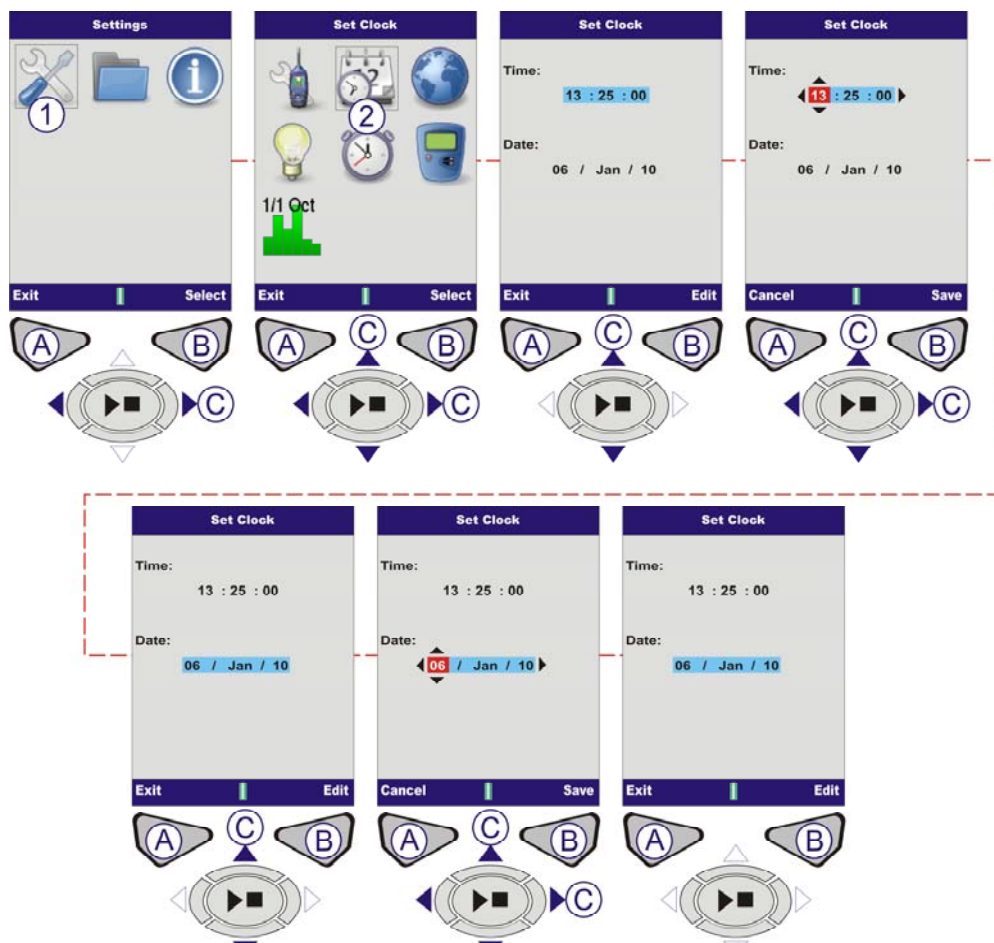

Figure 5 Set Date and Time
C. DATE AND TIME SCREENS (Refer to Figure 5)